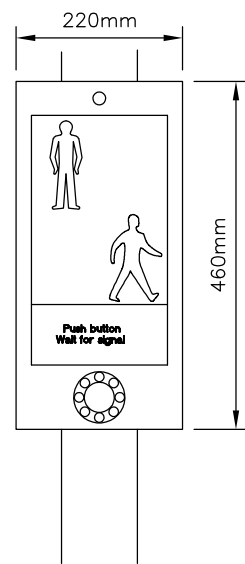

Figure 1
- Pushbutton plates to be as shown in Figure 1 (or similar)